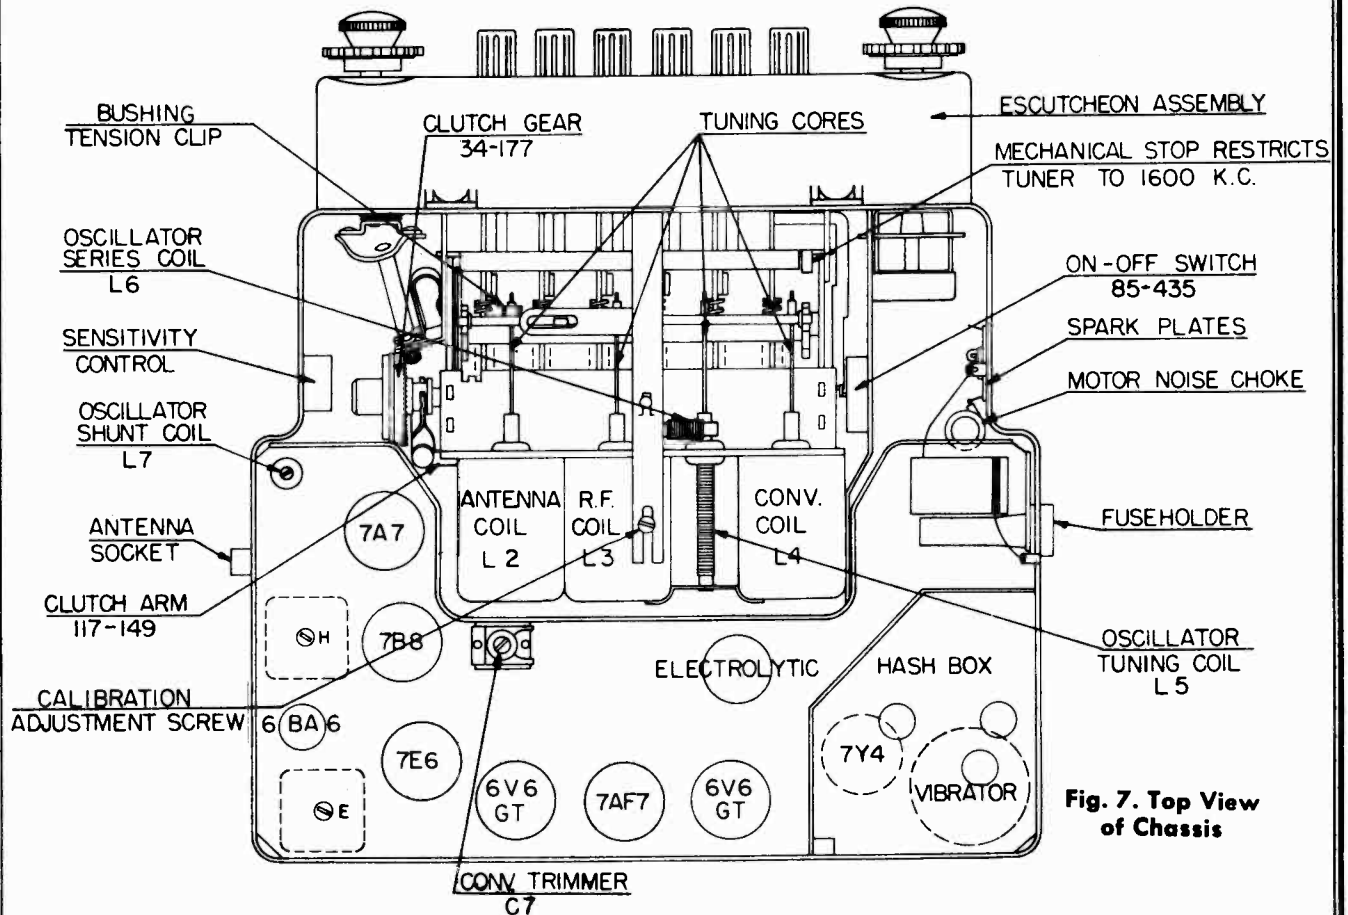
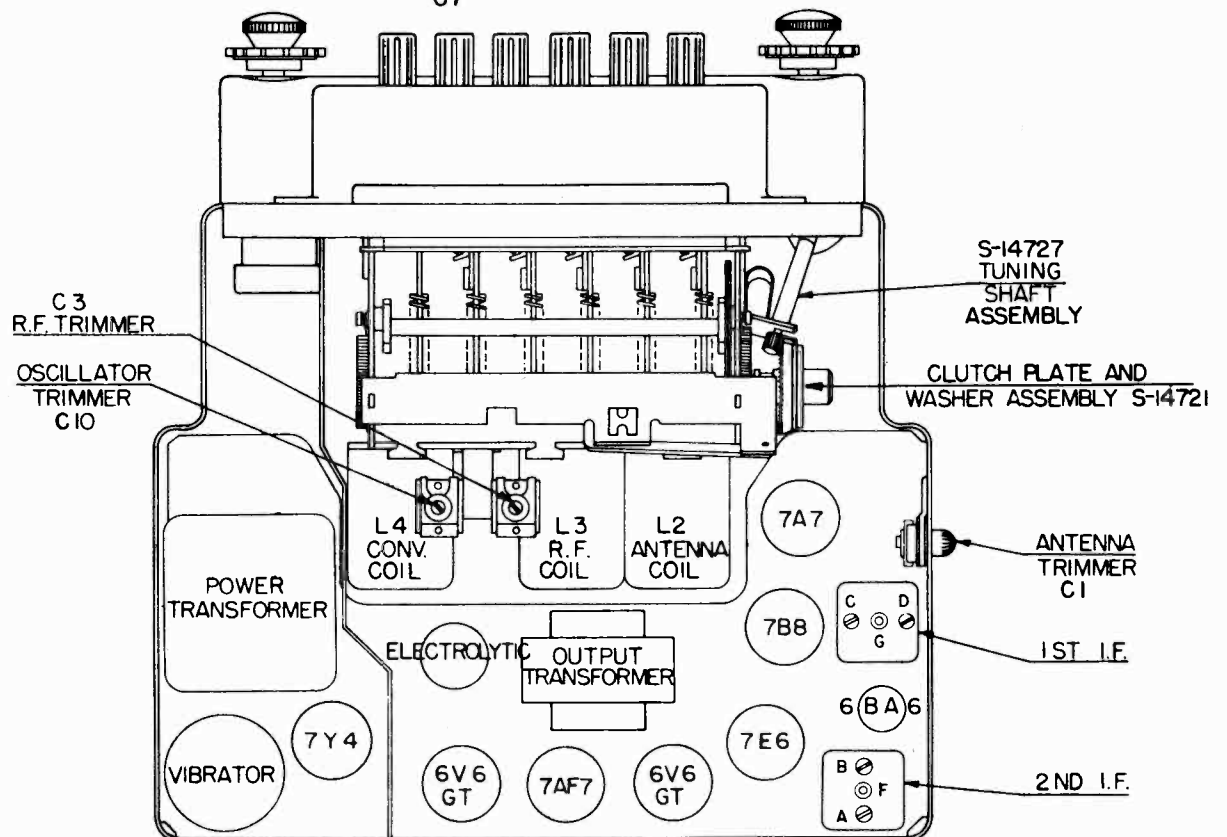

Fig. 7. Top View of Chassis
Fig. 8. Bottom View of Chassis
4. Adjust I.F. trimmers A, B, C, and D in order named for maximum output. (Fig. 8.) Some units have I.F. transformers that are slug tuned. In this case adjust I.F. slugs E, F, G, and H in order named. Repeat the operation to assure accurate alignment. (Figs. 7 and 8.)
4. Adjust oscillator trimmer C-10 (Fig. 8), for maximum response.
7. Adjust converter trimmer C-7, R.F. trimmer C3 and antenna trimmer C-1 (Fig. 8) for maximum response (Figs. 7 and 8).
8. If dial calibration is off after making above adjustments, a correction can be made by turning eccentric screw at fulcrum of dial pointer. (Fig. 7.)
5. Adjust the oscillator trimmer C-10 (Fig. 8) at 1675 Kc.
6. Adjust the converter trimmer C-7, R.F. trimmer C3, and antenna trimmer C-1 (Figs. 7 and 8) for maximum output reading.
9. Adjust the oscillator core L-5 (Fig. 7) to scale at 1300 Kc.
10. Adjust the antenna core L-2, R.F. core L3, and converter core L-4 (Fig. 7) for maximum output reading.
12. "Rock in" shunt oscillator coil L-7 (Fig. 7) for maximum output reading. This should be done only as a last resort. This is the same as rocking in the padder condenser on a gang condenser receiver.